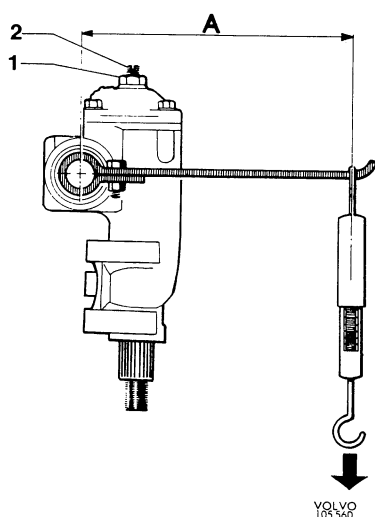

Fig. 6-44. Checking take-up between cam and roller
8. Place the steering cam shaft in the middle position. Screw in the adjusting screw so far as to notice resistance when rotating the shaft forwards and backwards over the middle position. Fit a spring balance at a distance of 210 mm (8½") from the shaft centre. The spring balance can suitably be attached to a swing iron mounted on the steering cam shaft, see Fig. 6-44.